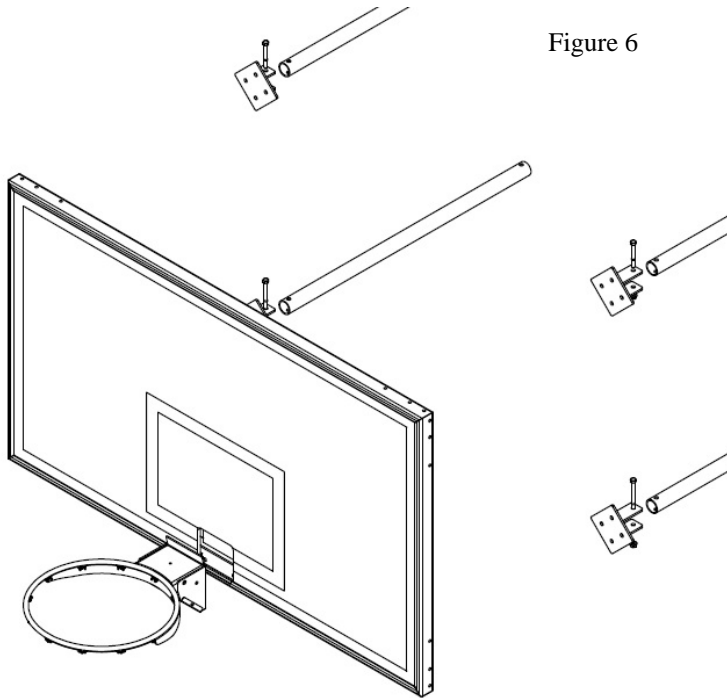

Figure 6
13. Mount the backboard to the structure. If you are installing a rectangular glass backboard, the attachment hardware is packed with the backboard, for all other backboards, the attachment hardware will be packed with the backstop frame hardware. Be sure to level the backboard. See Figure 6.